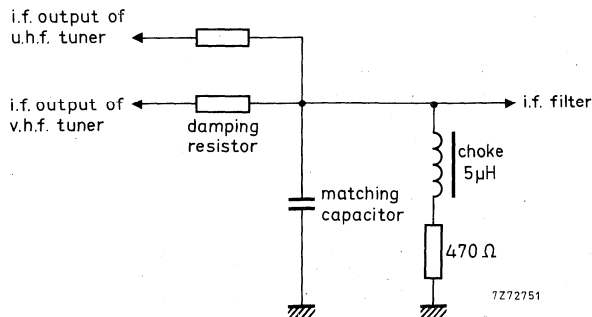

Fig. 12.
The tuner needs a d.c. path from the i.f. output terminal (T) to earth, preferably via a choke of approx. 5 μ H outside the tuner (Fig. 12). Where the tuner is used in combination with a u.h.f. tuner, this choke can be common for both tuners; a resistor in series with the choke can make ineffective the i.f. output circuit of the switched off tuner. For damping the i.f. output circuit and matching the i.f. output impedance of the tuner to the i.f. amplifier, a series resistor and a parallel capacitor as shown in Fig. 12 should be used. (During v.h.f. operation the voltage across the 470 Ω resistor is 1 to 1,2 V.)